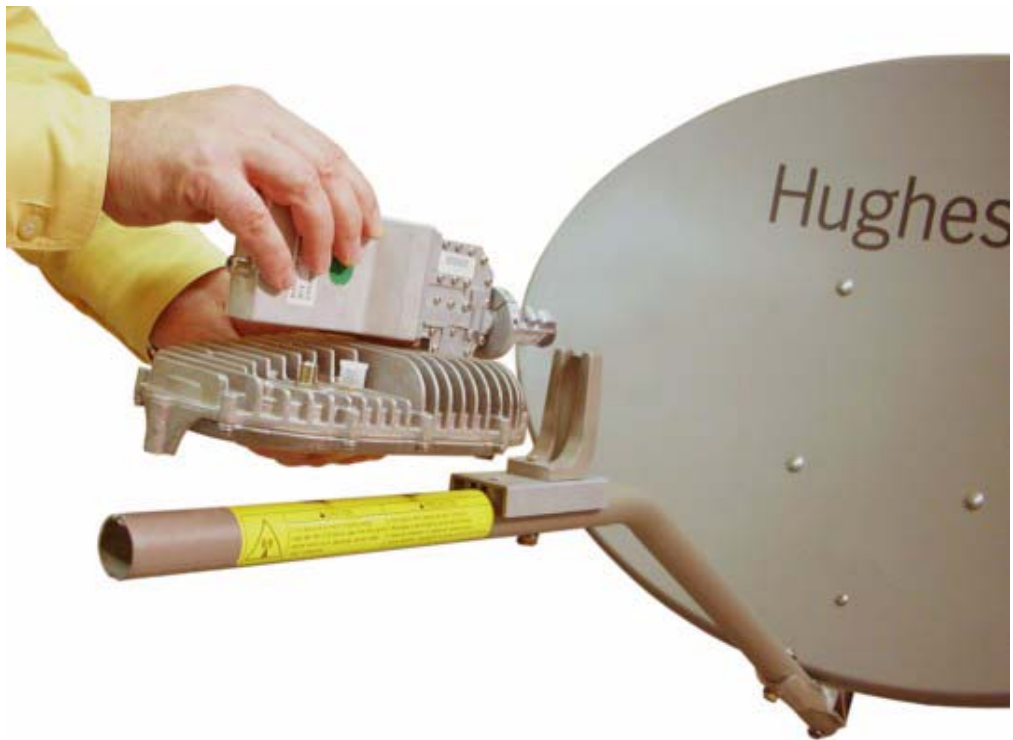

Figure 18: Attaching the radio assembly
5. Position the radio assembly above the long adapter bracket so that the waveguide end of the radio is nearest to the reflector, as shown in Figure 18.